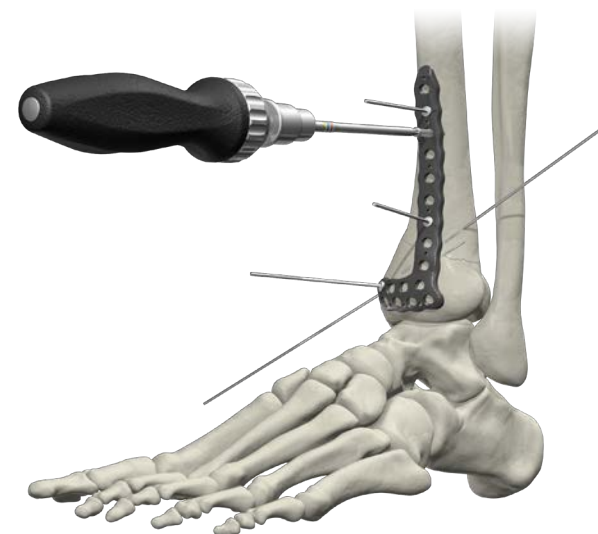

FIGURE 50
6. Insert the Depth Gauge into the pilot hole to determine screw length. Select desired screw length and type. Insert screw into the pilot hole and drive into position rotating clockwise with the driver (**FIGURE 50**).